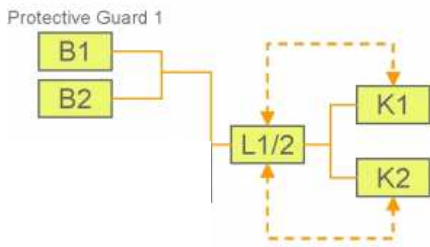

Figure 2
- The functional channel can be represented by a single curtain actuating two switches (i.e. B1 and B2) that would correspond to the input (see figure 2).